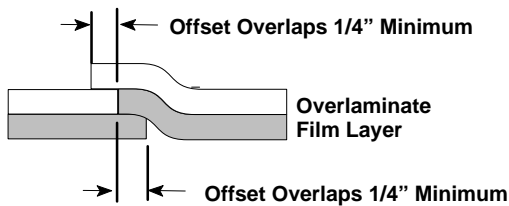

Figure 6. Offset Overlaps Required for Each Layer
- Seams for each layer of film, diffuser and/or overlaminate must each be offset by at least 1/4 inch. Figure 6 illustrates the preferred method of offsetting the overlaps. This method eliminates all gaps except the one in the bottom layer of film and creates a better sealing seam.